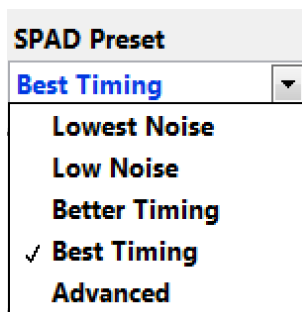

Figure 2.15. SPAD Preset configurations drop list menu.
With this panel you can select a SPAD configuration, that is a particular combination of detector temperature, excess bias and hold-off time. Under *SPAD Preset* drop list menu (shown in Figure 2.15) there are four preset configurations, which lead to different detector performances; in particular:
2. Select a *SPAD Preset*, using the menu shown in Figure 2.15. If the *Advance Mode* has been chosen, enter the desired device temperature, excess bias and hold-off time.